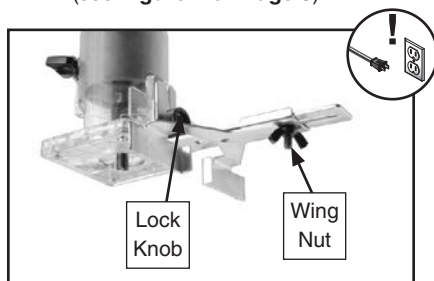

Figure 13. Typical straight guide installation.
2. Slide straight guide onto base plate as shown in **Figure 13**, then set guide height and tighten lock knob.